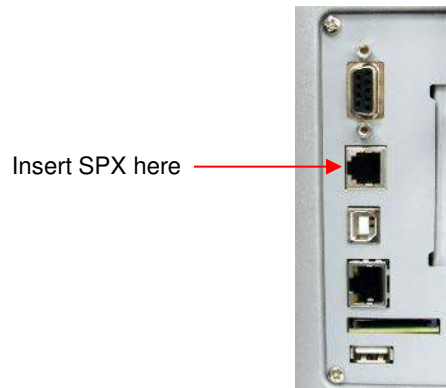

Figure 15 Inserting The SPX into the Debug Port
2. Refer to *Figure 15* to locate the debug port at the rear of the printer.